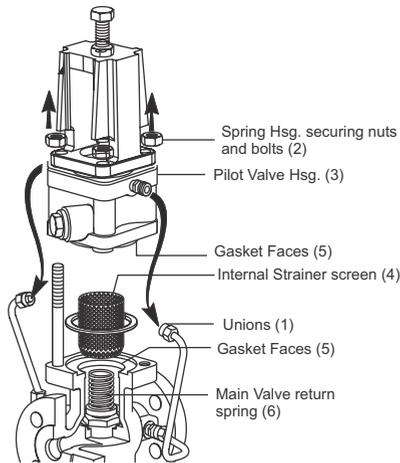

Figure 15: Procedure to clean or replace the internal strainer screen
7.7 Procedure to clean or replace the internal strainer screen: (FMPRV41 Steam / Air) (Refer to Figure 15)